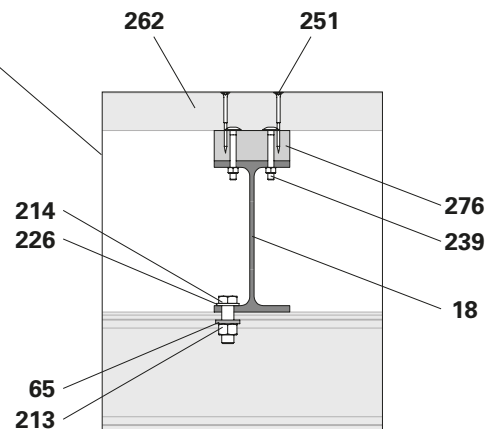

Fig. B2.07a
4. Lay out the planking (**262**) and screw down with Spax 6 x 70-SK-TX30 (**251**). (Fig. B2.07a)